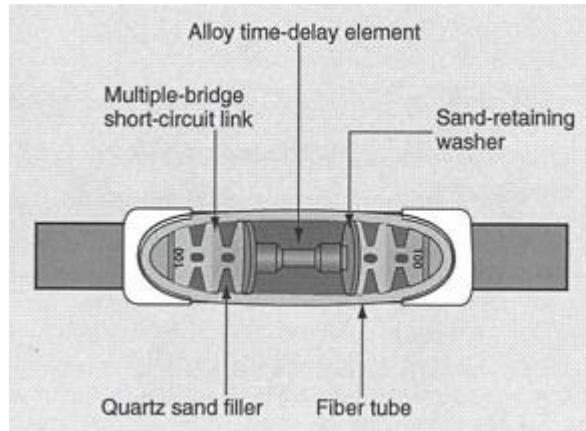

Figure 5.5: Dual-Element Cartridge Fuse
- 5-10 Dual-element cartridge fuses are designed mainly for motor circuit protection. The construction of this kind of cartridge fuse is shown in Figure 5.5. The fuse blows when either opens. For overloads, the opening of the fuse is achieved by the melting of a time-delay element made from an alloy. For short circuits, links on either end of the fuse blow in a fraction of an AC cycle.